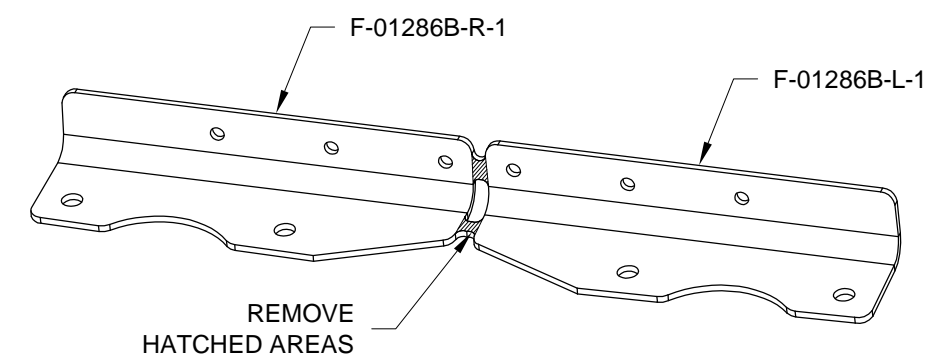

FIGURE 4: SEPARATING F-01286B-1
Step 7: Separate F-01286B-1 by removing the hatched areas shown in Figure 4.